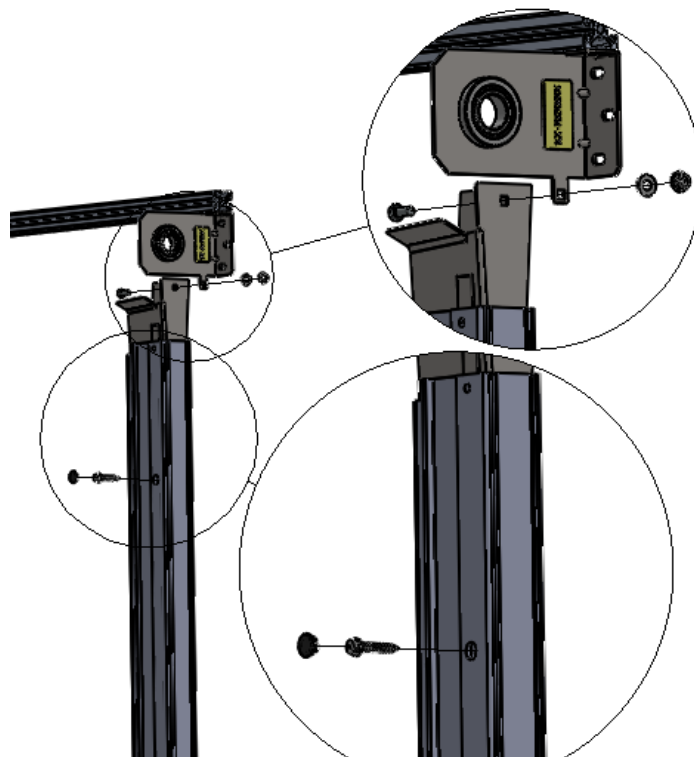

Figure 7 MOUNT TRACK TO HEADER & MOUNT TRACK TO WALL
1. Starting with either the left or right side, loosely “hang” the Track Assembly by its Transition Bracket Mount hardware. Note that the transition Bracket mounts to the inside of the tab of the Header Assembly Mounting Bracket. It is important to insert the carriage bolt from the inside of the transition and the washer and hex nut on the outside of the assembly as shown. (Figure 7 MOUNT TRACK TO HEADER & MOUNT TRACK TO WALL)
3. Move the Track Assembly off to the side and predrill its mounting holes. Move it back into place and secure it to the wall with appropriate hardware. Before fully tightening hardware, be sure to each track is plumb/vertical. Replace the black plastic plugs in the mounting access holes on the Track front. (Figure 7 MOUNT TRACK TO HEADER & MOUNT TRACK TO WALL)